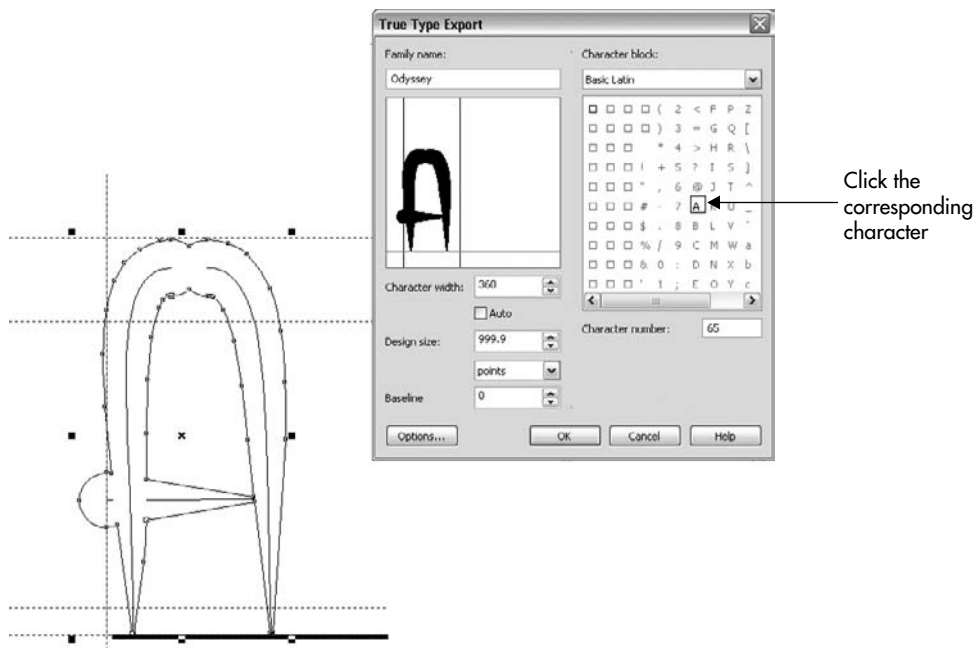

FIGURE 15-7 Assign the selected object a keystroke in the TrueType Export dialog.
5. Click the character in the Character Number box that corresponds to the character you're exporting. In Figure 15-7 you can see the A is selected. Click OK, and you have one character in a new font saved.